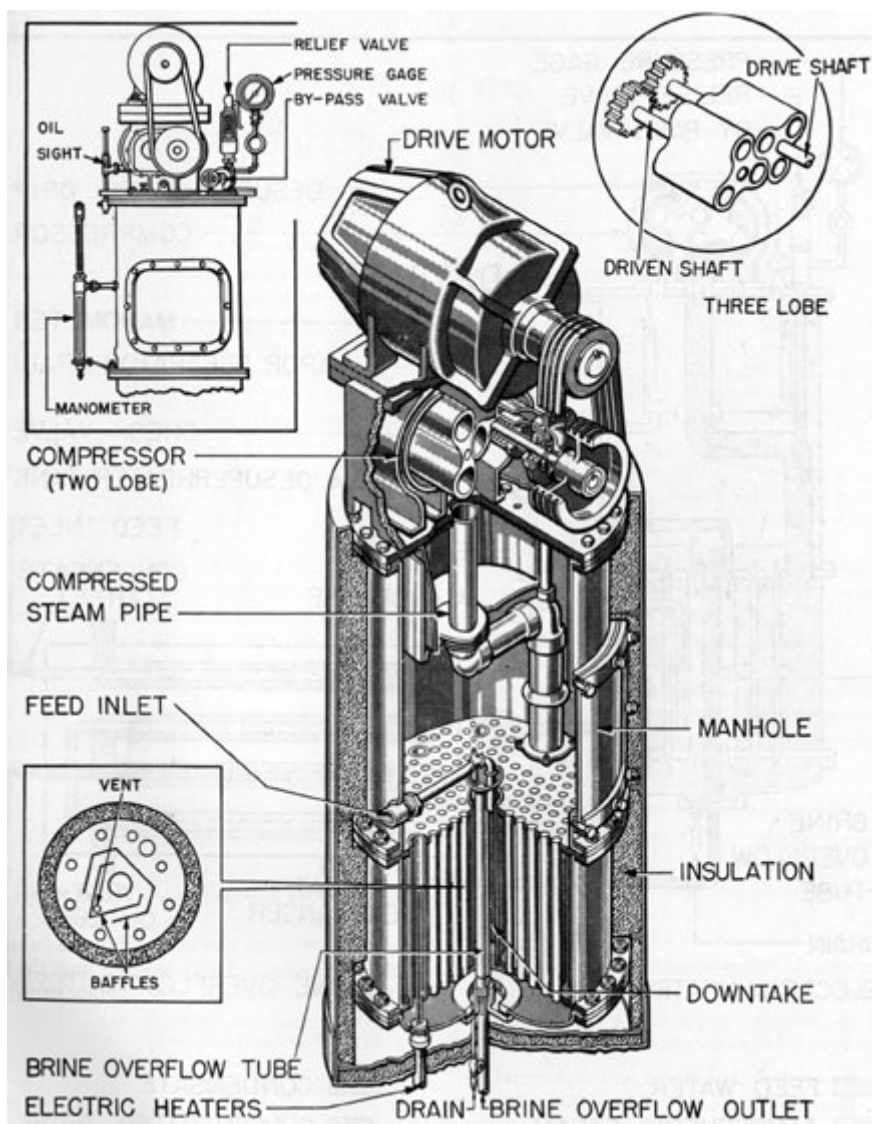

Figure 6-1. Model X-1 distilling unit (cutaway view).
In the Model X-1 unit, the actions b and c are performed inside the main unit or evaporator in a space called the steam chest; actions a and d are performed in an external heat exchanger. Figure 6-1 is a cutaway view of the Model X-1 unit
**7A2. Steam chest.** Inside the insulated jacket the lower part of the cylinder is the steam chest, where the sea water is vaporized, and distilled water condensed. It consists of 334 admiralty metal tubes, each 16 1/4 inches long with a 3/4-inch o.d. These tubes are set side by side, as shown in Figure 6-1, and enclosed in a shell. At the top and bottom of the shell, the ends of these tubes are expanded into holes in the tube sheets.
**7A5. Feed.** The feed inlet pipe in the evaporator extends horizontally to the center and there branches into a Y, the two ends of which turn down and extend just below the funnel (Figure 6-1). The Y-ends actually pass through the funnel wall. The newly incoming feed pours into the downtake, mixing with the vaporized portion of the feed already in the steam chest.